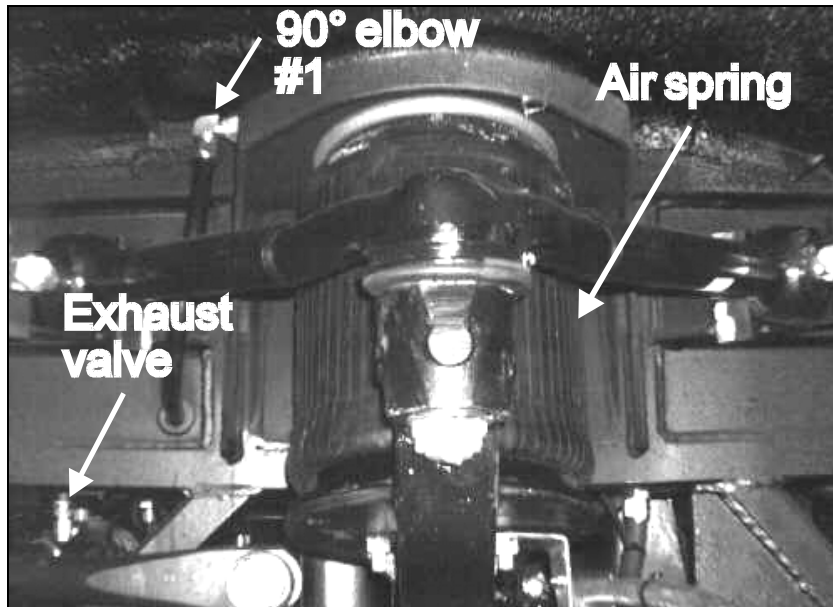

FIGURE 1: AIR SPRING AND EXHAUST VALVE (RIGHT SIDE)
- Locate air springs on independent suspension on front wheels (Fig. 1).
- Remove air inside air spring by opening the exhaust valve located on tank (Fig. 1 and 2).